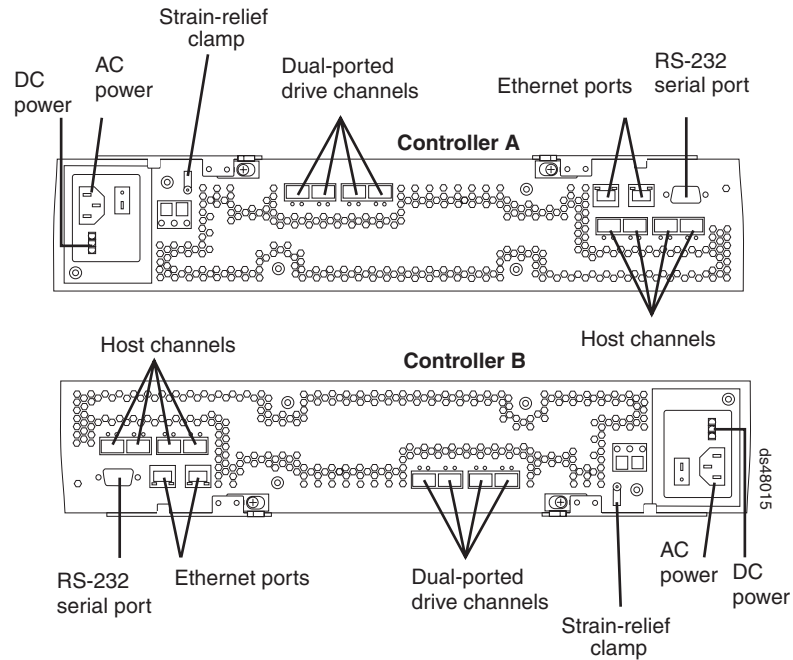

Figure 87. Connectors on the back of each controller
7. Disconnect all attached interface cables from the failed controller, including the SFP modules. Ensure that you label each cable so that you can reconnect them correctly to the new controller. Figure 87 on page 147 shows the location of the connectors on the back of a controller.